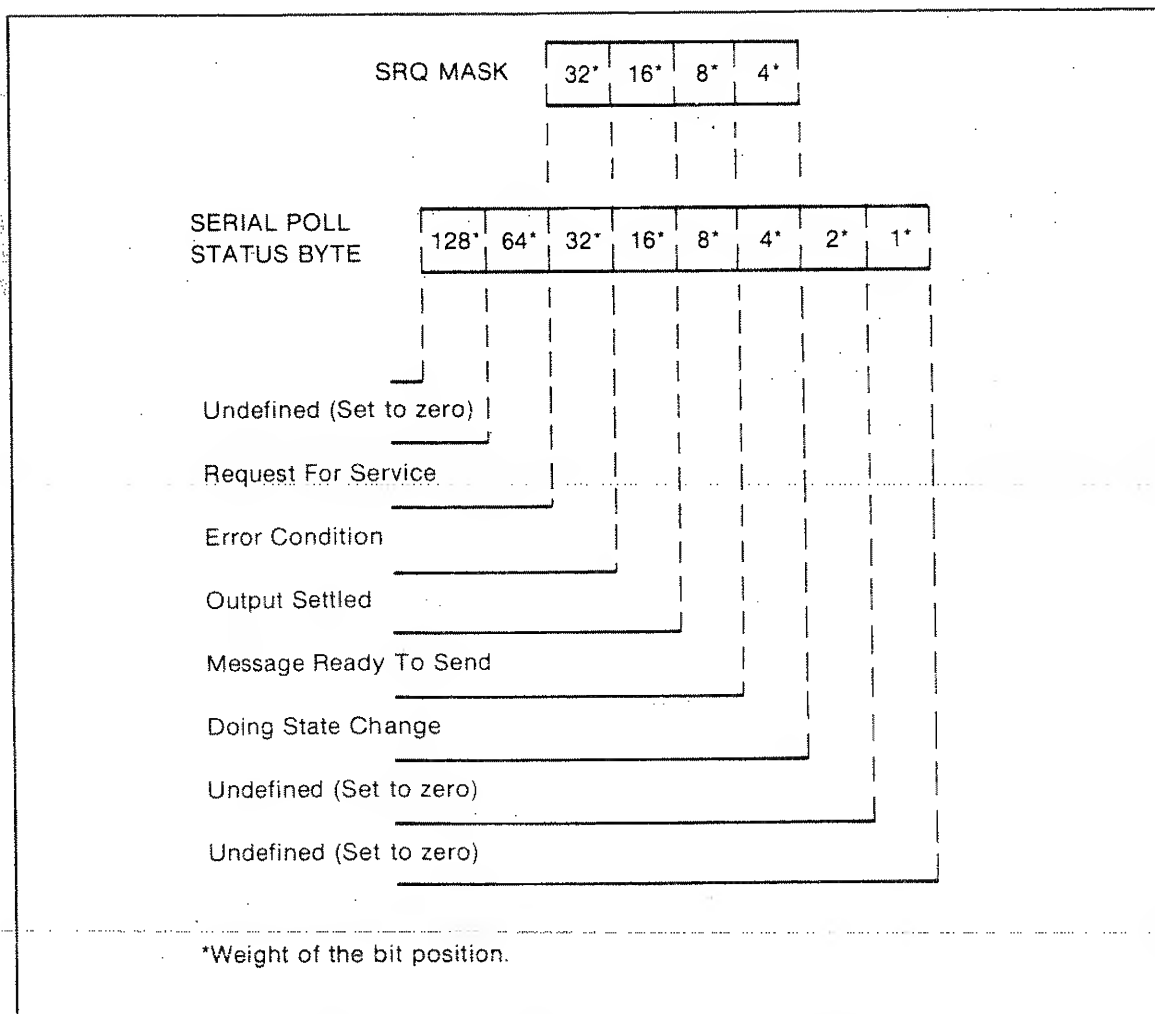

Figure 4-6. SRQ Mask and Serial Poll Status Byte
Figure 4-6 shows the Serial Poll Status Byte and the SRQ Mask for the Calibrator. Note that only one bit position is used to request for service; all other bit positions indicate specific events or are not used at all. When one of these events occurs, the corresponding bit position in the Serial Poll Status Byte is set true (1). If the same bit position is true (1) in the SRQ Mask, then the Request for Service bit position in the Serial Poll Status Byte is set true (1) which requests service by the controller. If the bit position in the SRQ Mask for that event is false (0), then the Request for Service bit
The following paragraphs provide information about each bit position of the Serial Poll Status Byte (Figure 4-6) that is used. The controller can look at the Serial Poll Status Byte by either serial polling or by sending the Get Serial Poll Byte (GSPB) message. The Calibrator returns the decimal equivalent of the Serial Poll Status Byte.